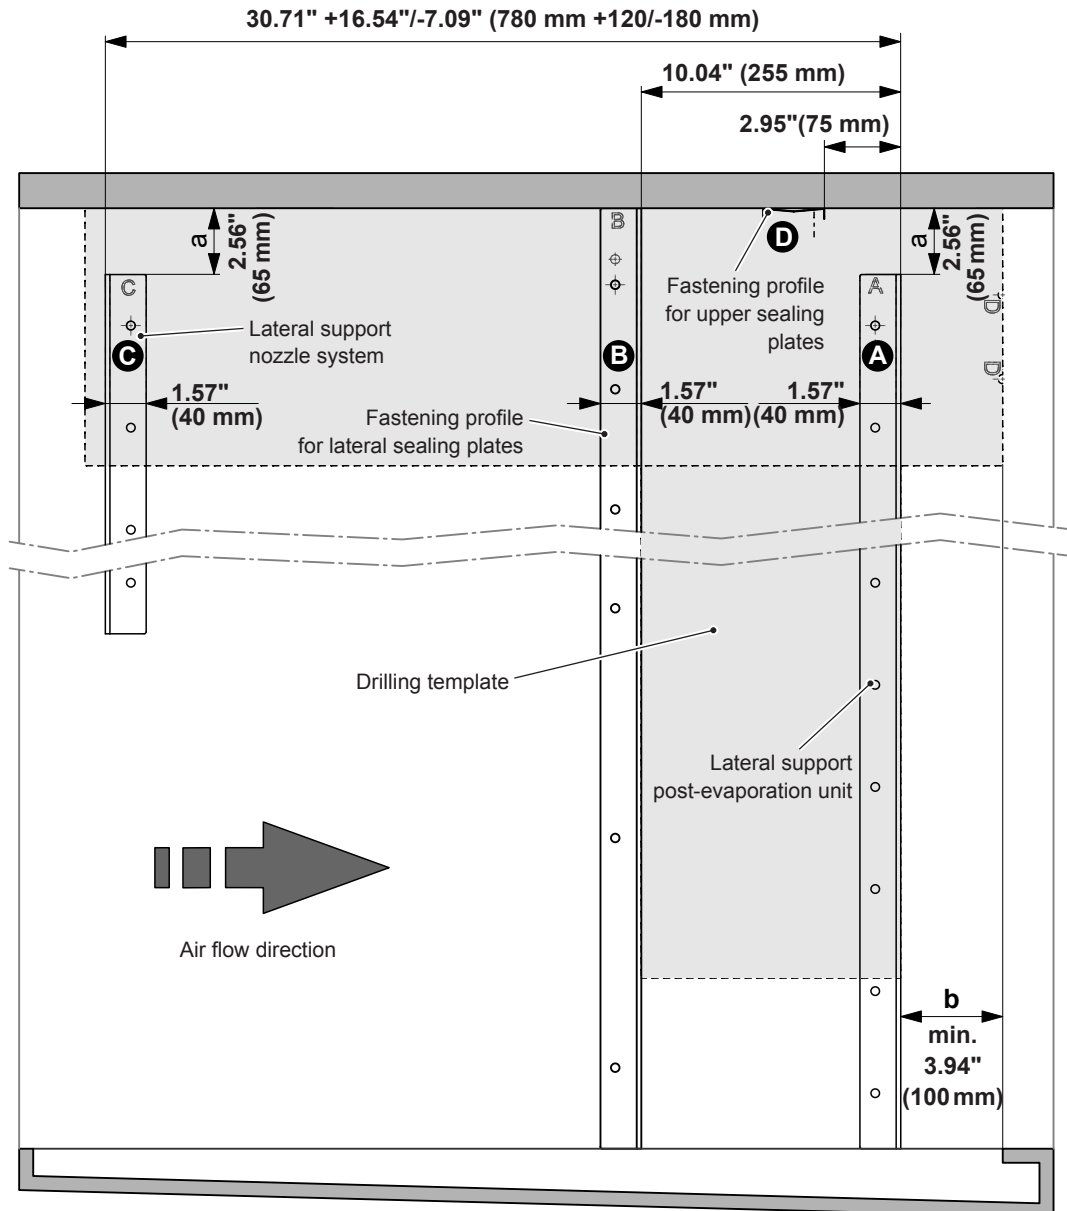
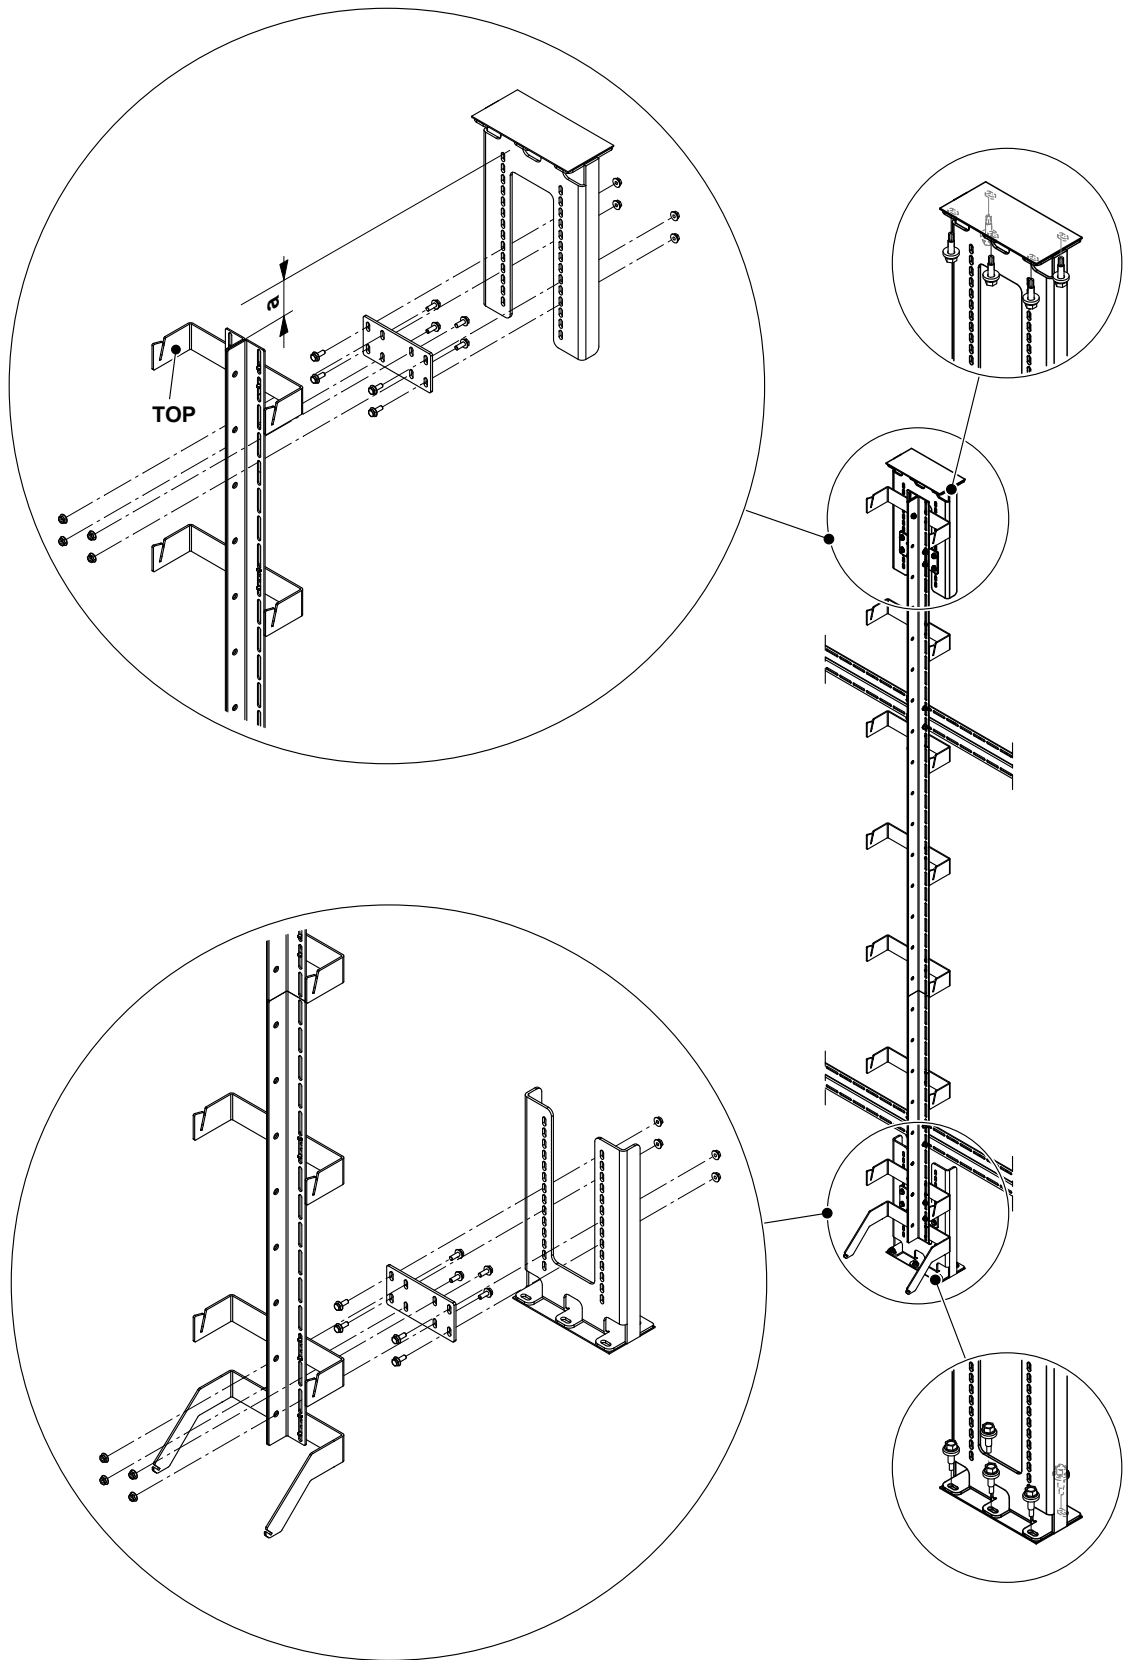

Fig. 5: Positioning of the fastening elements (side view)
*Fig. 12: Mounting the vertical support(s)*
- If necessary, loosen the two screw connections fixing the angle bracket(s) to the vertical support(s) and position the angle bracket(s) in such a manner that the distance between the leg of the angle bracket and the upper edge of the vertical support has the same distance as the upper edge of the two lateral supports have to the duct ceiling (see Fig. 5 and detail A in Fig. 12). Fasten the two screw connections again.
- Fix angle bracket of the vertical support(s) with two self-tapping screws 6.3 x 25 mm to the duct ceiling (see detail top left in fig. 12).
#### 8. Mounting the diagonal stiffeners (see also frame construction overviews in Fig. 5):